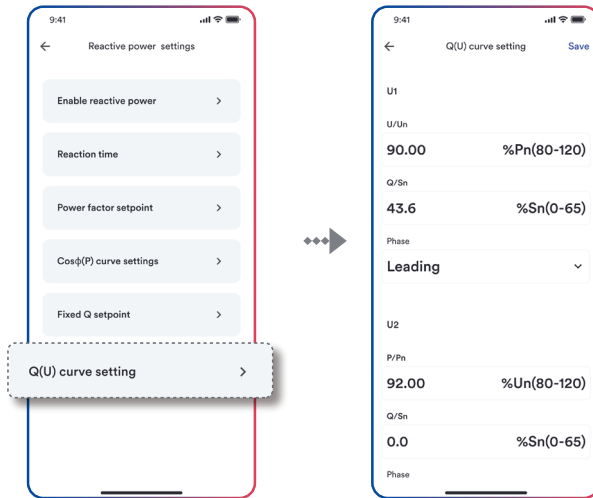

Figure 33. Q(U) curve adjustment
Q(U) curve settings is as shown in Figure 33: